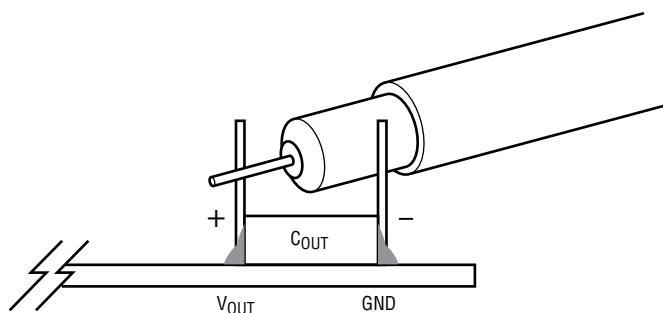

Figure 2. Scope Probe Placements for Measuring Input or Output Ripple
7. Once the input and output voltages are properly established adjust the loads within the operating range (0A to 1A max) and observe the output voltage regulations, output ripple voltages, switch node wave-forms and other parameters. Refer to Figure 2 for proper input/output voltage ripple measurement.
**Note 1:** To measure the input/output voltage ripple properly, do not use the long ground lead on the oscilloscope probe. See Figure 2 for the proper scope probe technique. Short, stiff leads need to be soldered to the (+) and (-) terminals of an output capacitor. The probe's ground ring needs to touch the (-) lead and the probe tip needs to touch the (+) lead.